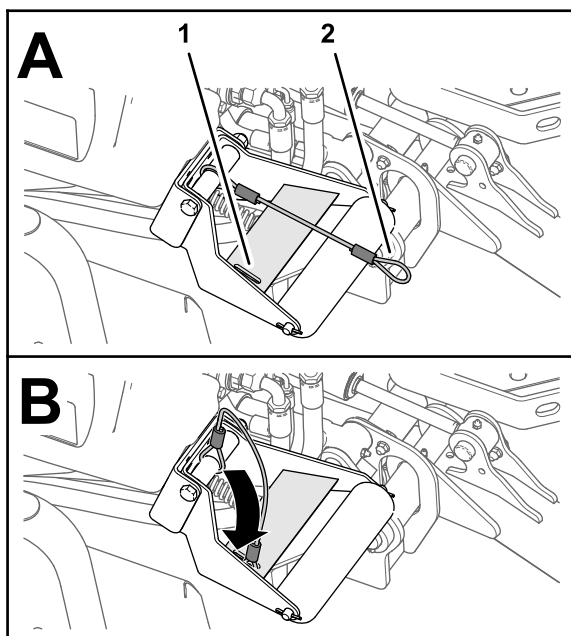

Figure 35
4. With the cutting units lowered, slip the loop of the lanyard into the slot in the reinforcement plate of the roller support (Figure 35).